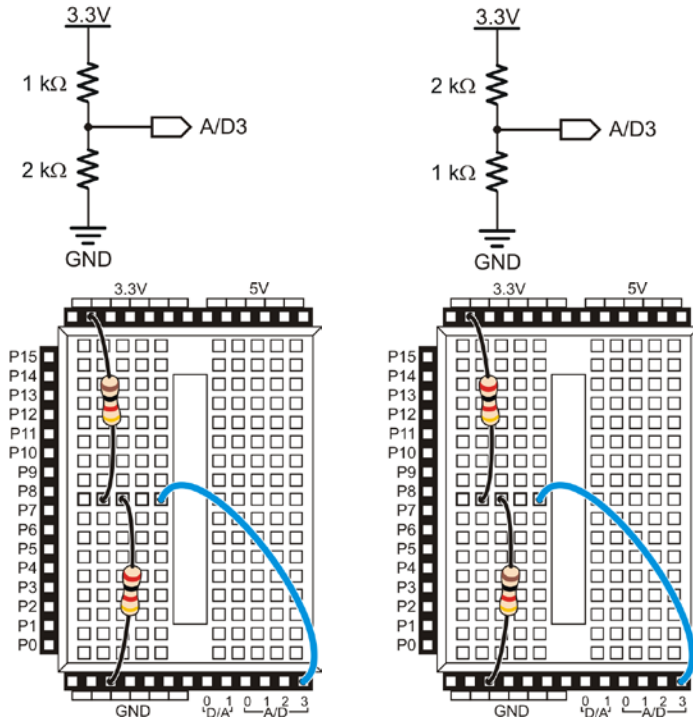

Figure 6-8
- Modify the circuits using the schematics in Figure 6-8, with the aid of the wiring diagrams if needed. Remember to turn off power when changing circuits.